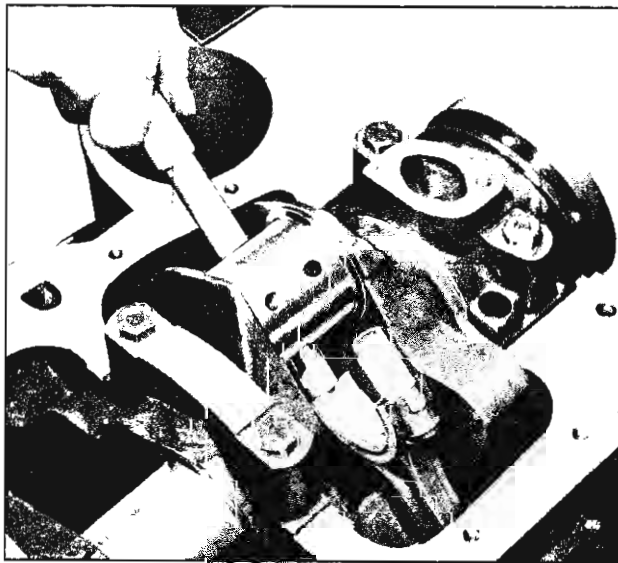

Fig. 87—Removing Piston Assemblies
6. Remove connecting rod journal bearing cap and install Tool J-6305, Connecting Rod Guide, set on studs as shown in Figure 87. Push piston assemblies out of top of cylinder block.